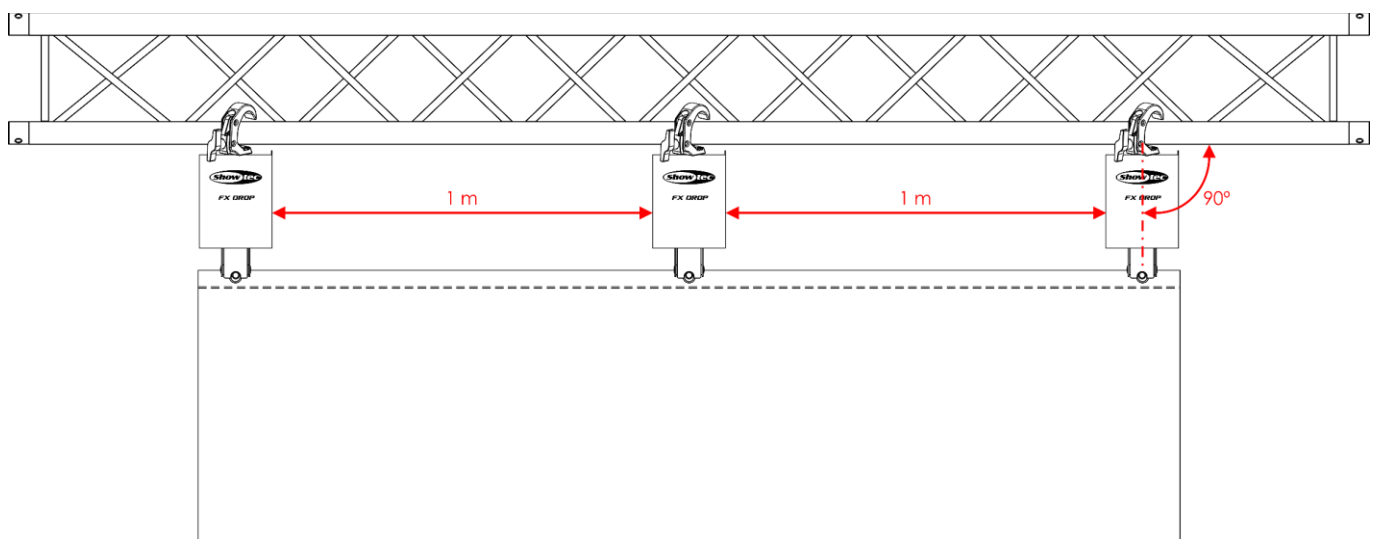

Fig. 04
- 05) Place the rest of the FX Drops at equal intervals between the first and the last FX Drop. Make sure the distance between the FX Drops is not bigger than 1 m. This will prevent the cloth from sagging and will provide enough stability. See Fig. 04